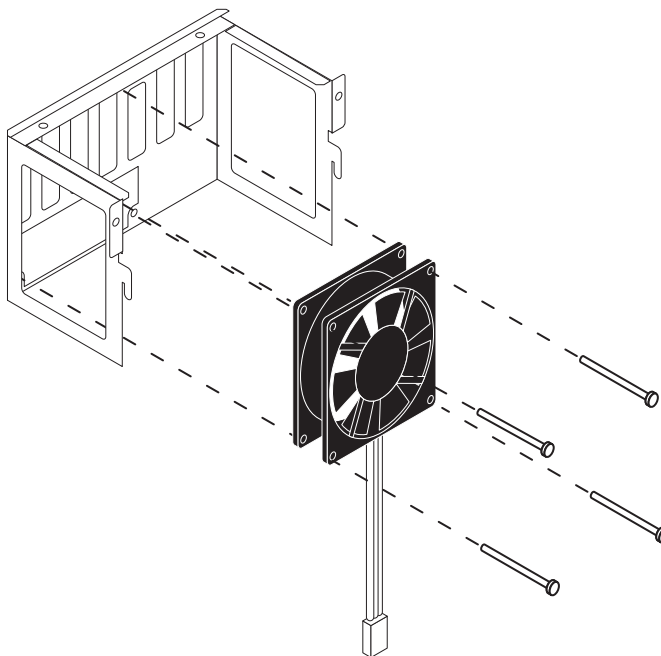

FIGURE 4-23 Removing the front fan
4. Unhook and remove the board guide (with front fan attached) from the chassis (see Figure 4-23 on page 4-49).